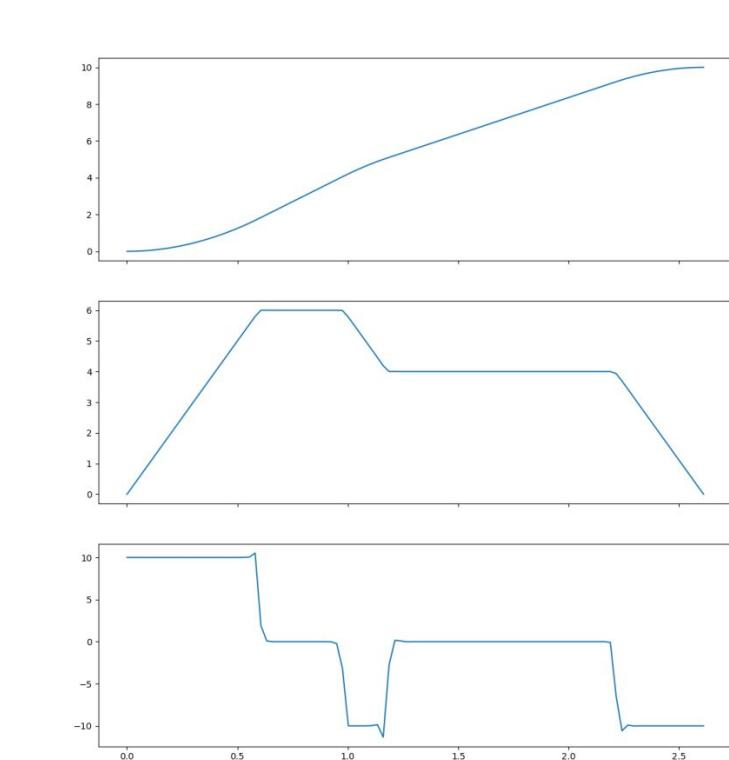

Figure 3: Velocity profile
1. A path consisting of joined line-segments is generated through the “Fast Matching Trees” algorithm (see *Figure 3*)